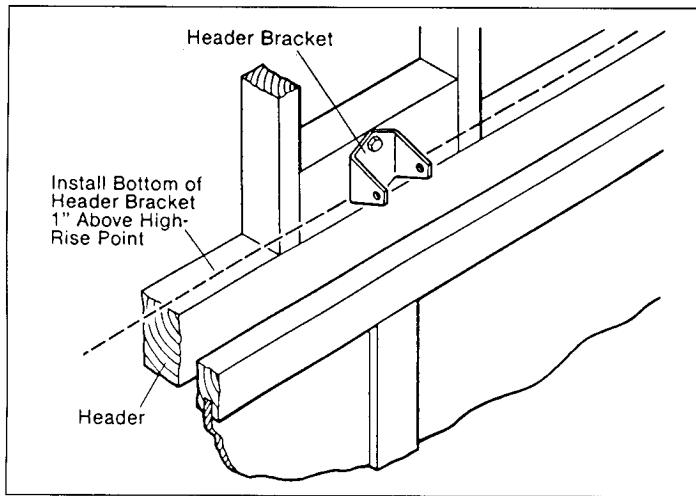

Figure 13
Step 21: If high-rise point is above door header, install 2" x 6" mounting board at this point (see Figure 13).
Step 22: Use 2" lag screws to mount bottom of header bracket one inch (1") above high-rise point on center line of header (see Figure 13.)